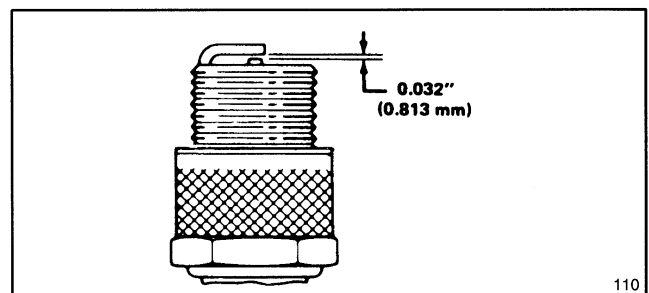

Figure 19
3. Set air gap at 0.032" (0.81 mm) (Fig. 19). Install correctly gapped spark plug and gasket seal. Tighten plug firmly to 10 ft–lb (13.6 N·m).